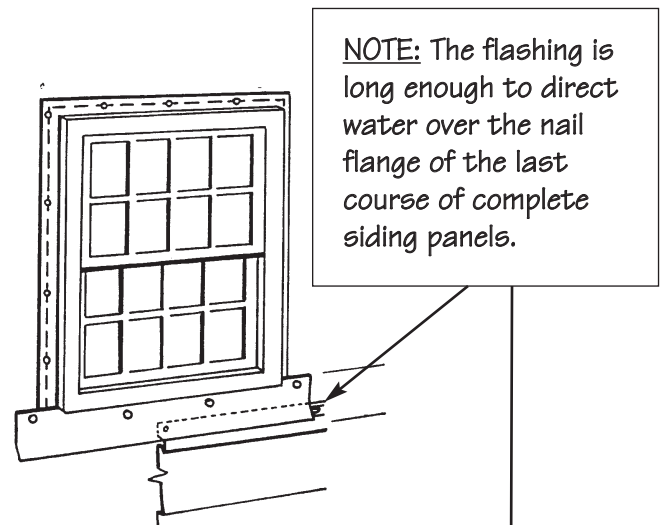

Figure 28.
- Apply the flashing on the underside of the window first (Fig. 28).